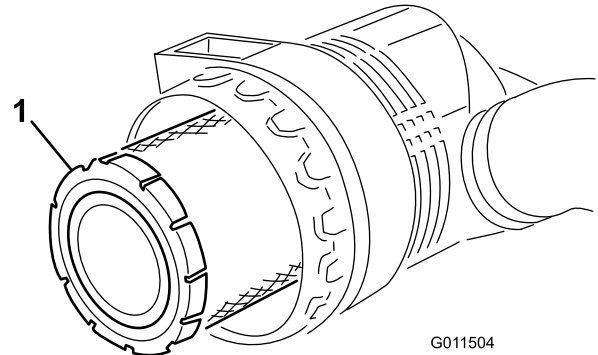

Figure 56
3. Remove and replace the primary filter (Figure 56).